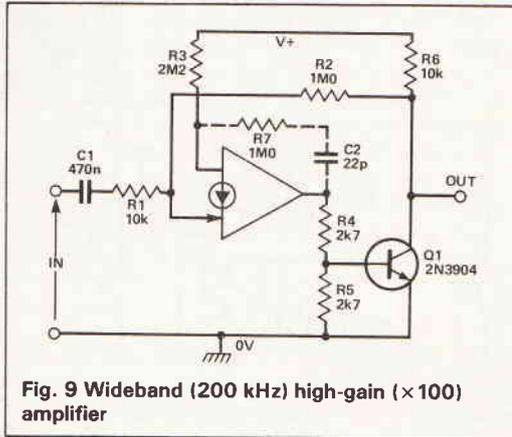

Fig. 9 Wideband (200 kHz) high-gain ( $\times 100$ ) amplifier
**Fig. 9** Final Bode plot estimate of closed-loop frequency response of the system of Fig. 5 when its feedback loop has been closed. Taken from closed-loop response as shown on the Nichols chart of Fig. 8
The LM3900 op-amps are fairly slow devices with slew rates of only  $0.5V/\mu s$ , and thus very limited useful bandwidths. Figure 9 increases the useful bandwidth by connecting an external common emitter transistor to the output and transposing the input connections of the standard amplifier. This makes a  $\times 100$  'compound' amplifier with a 200kHz bandwidth.